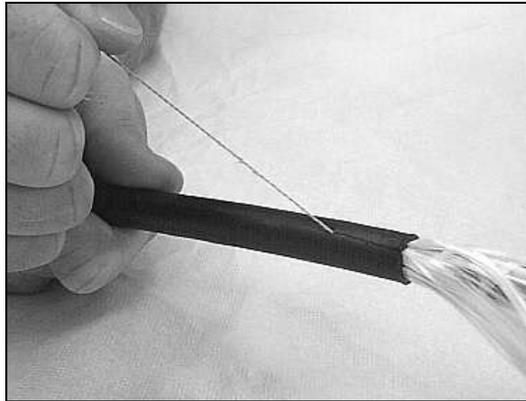

Figure 6 - Pulling the ripcord.
4.6 Locate and pull the ripcord to the first measured mark (Figure 6). A small starter slit can be cut in the cable jacket to help start the ripcord. If desired, grip the ripcord by wrapping it around the jaws of needle nose pliers.